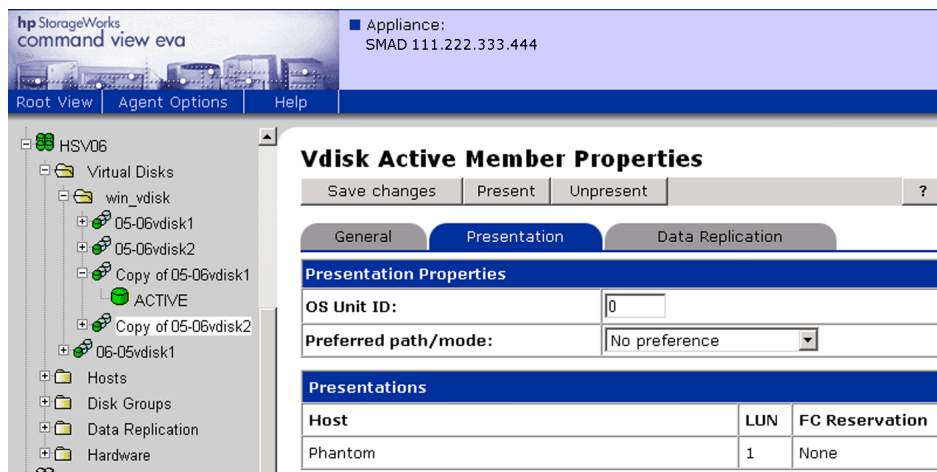

Figure 70: Vdisk Active Member Properties page with Unpresent tab
- b. Click the **Presentation** tab. The Vdisk Active Member Properties page is displayed with an Unpresent tab (Figure 70).